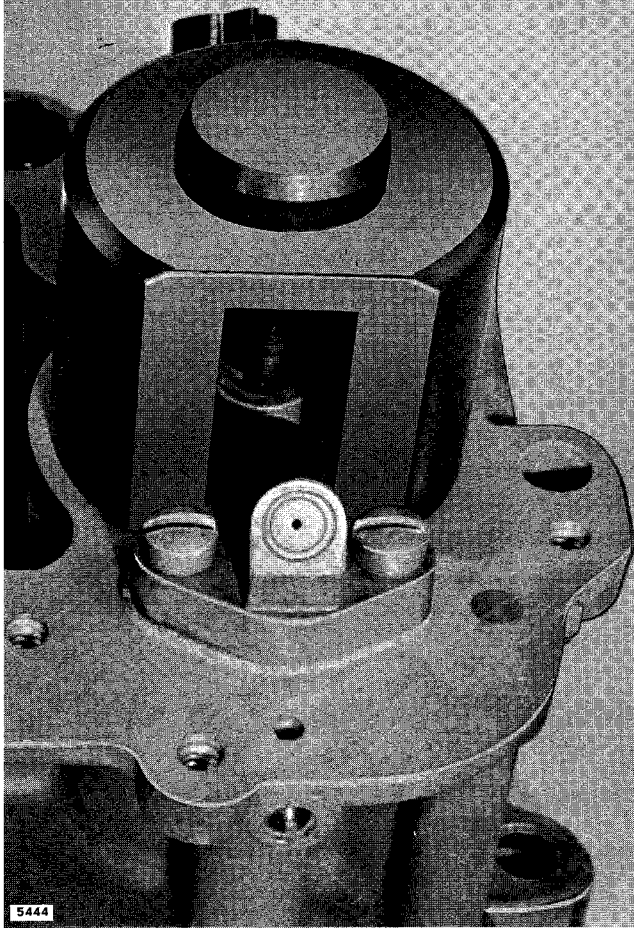

Figure 3-23. Venturi Locating Gage
e. Attach the high-speed venturi assemblies to the carburetor body, using venturi locating gage (Special Tool #379242) to assure correct positioning for optimum performance. See Figure 3-23.